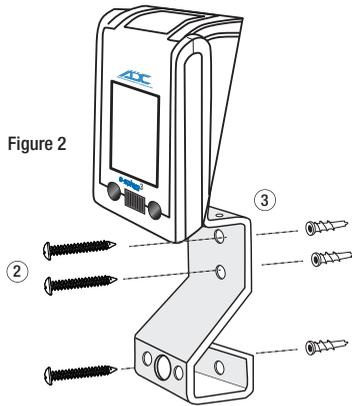

Figure 2
2. Slide stainless steel inner pole inside outer pole with open end up. Make sure shock absorbing spring is inside the outer pole and tighten. (Figure 2)
2. Attach wall bracket to wall. For optimum viewing, it is suggested that you measure 60" from the floor to the top of the wall mounting bracket (or adjust as needed). Once positioned to desired height, mark screw positions on the wall making sure bracket is level. Screw three supplied screws firmly into a stud, or use the three supplied anchors to secure to the wall. (Figure 2)